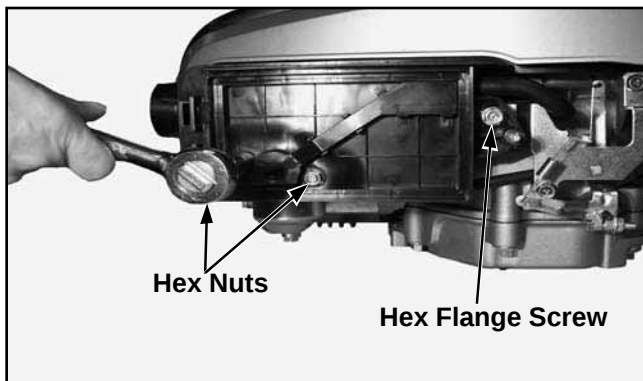

Figure 8-10. Removing Air Cleaner Base.
- Remove the two hex nuts and the hex flange screw securing the air cleaner base to the cylinder head and the crankcase. See Figure 8-10.